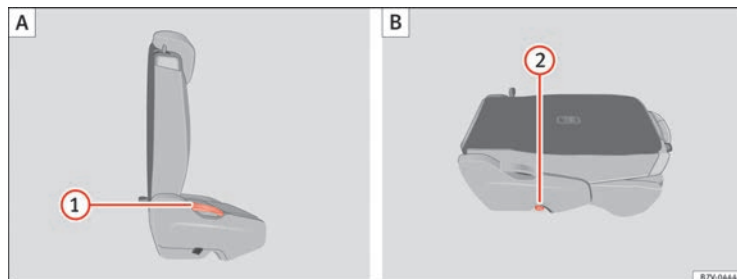
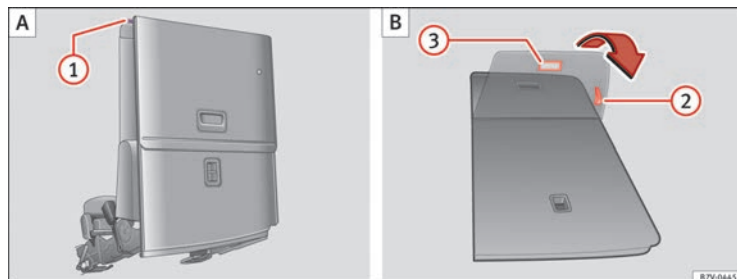

Fig. 89 Second row of seats: folding the rear seat ①, rear seat as load space ②.
Fig. 90 Third row of seats: fold down the rear seat to load ① then return to position ②.
- Remove objects from the footrest area in front of and behind the rear seat ⇒ ⑩.
- Pull lever ⇒ fig. 89 ① back and fold the backrest forwards. The complete rear seat folds forward ⇒ ①.
- Fold the backrest forwards until it locks into the load surface position ⑧.
- If necessary, pull on the lever ⇒ fig. 90 ② to move the seat to the required position.
- When the seat is folded down, no adults or children should travel in it ⇒ ①.
- Pull lever ① back and fold the backrest forwards. The rear seat folds forward ⇒ ① and the cushion also moves forward.
- Pull lever ⇒ fig. 89 ① upwards and place the backrests in vertical position. The entire seat folds backwards.
- Pull on the handle ⇒ fig. 90 ② to put the seat tray back in position.
- Pull on the handle ③. The entire seat folds backwards.